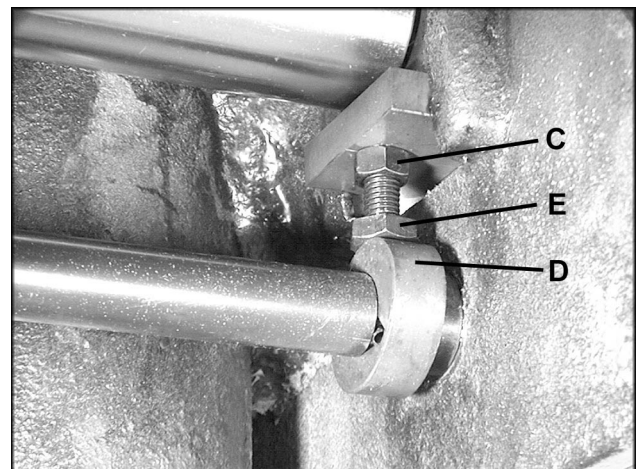

FIGURE 15
3. The standard setting is .008" (.2mm); if the reading is greater or less than this reading, reach below the table and loosen the hex nut (C) which is above the cam (D) Rotate the hex screw (E) to position the .008" setting. See Figure 15.
5. Re-tighten the hex nuts (C-Fig. 15) on both ends of the table roll. Repeat for other roll.